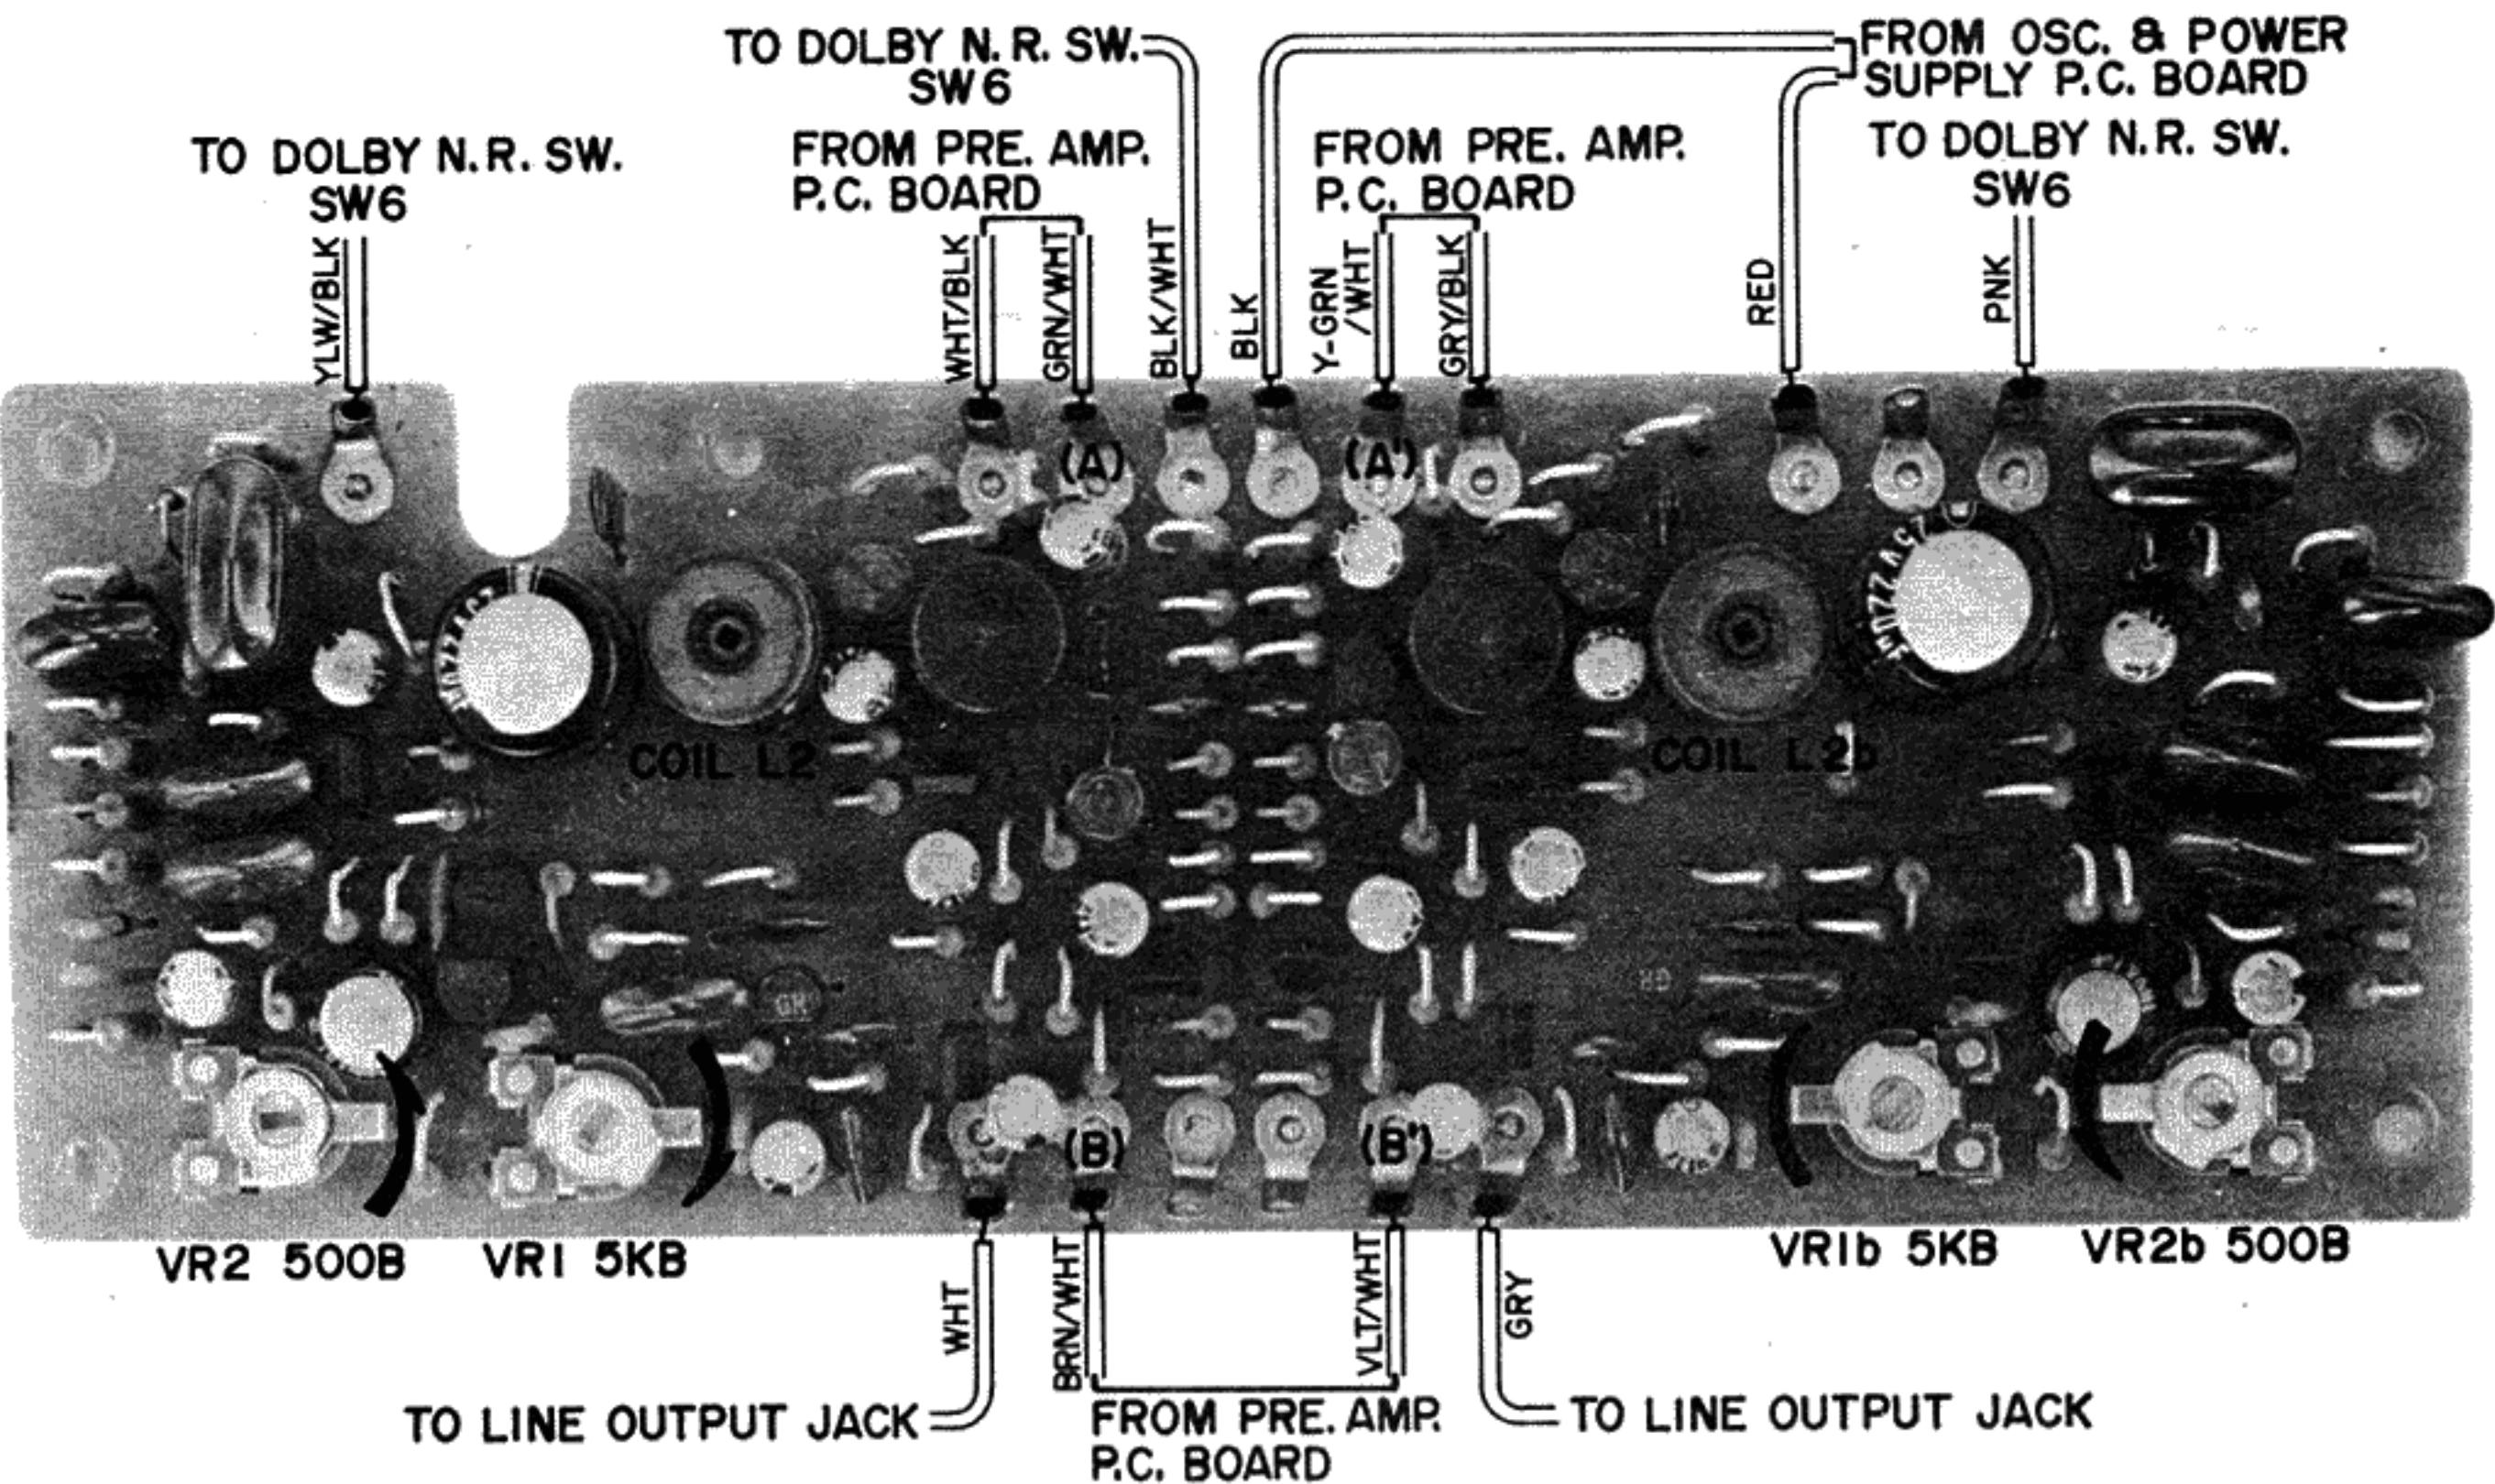

Fig. 18 DOLBY AMP. P.C. BOARD CG-5202 (Face Side)
- b) Turn Dolby N.R. Amp. P.C. Board Dolby Amp. Gain Adjustment Semi-fixed Resistors VR2 500B (left ch.) VR2b 500B (right ch.) and FET Gate Bias Adjustment Semi-fixed Resistors VR1 5 kB (left ch.) VR1b 5 kB (right ch.) as far as they will go in the direction of the arrows shown in Fig. 18.
- f) At this condition, further adjust the Attenuator so that the line output level at Point (A) shown in Fig. 18 is -28.5 dB. At this time, confirm that the level at Point (B) shown in Fig. 18 is -28.5 + 0.5 dB.
- g) Turn Dolby Switch SW6 to ON position. At this time, adjust Dolby Amp. Gain Adjustment Semi-fixed Resistors VR2 500B (left ch.) VR3b 500B (right ch.) until the voltage at Point (B) shown in Fig. 18 is increased by 10 dB.
- h) Disconnect ground from Test Point "TP" (FET Gate). At this time, adjust FET Gate Bias Adjustment Semi-fixed Resistors VR1 5 kB (left ch.) VR1b 5 kB (right ch.) so that the voltage at Point (B) shown in Fig. 18 is reduced by 2 dB.